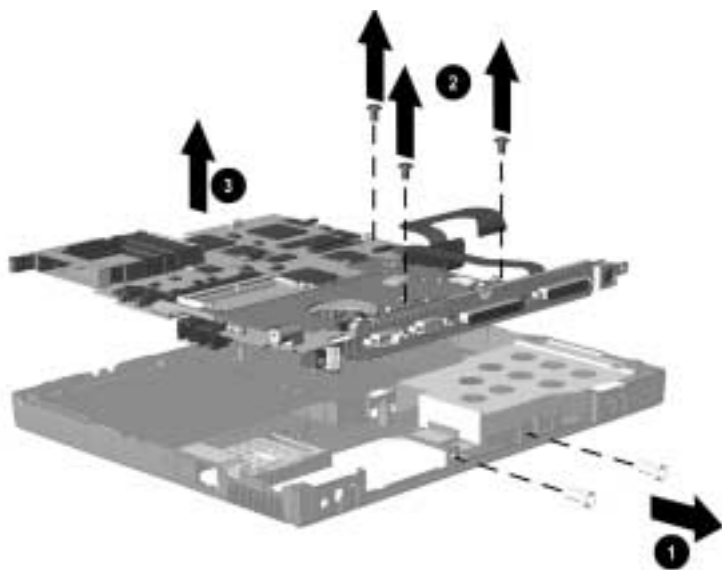

Figure 5-25. *Removing the System Board*
5. Remove the two bushing guides **❶** that secure the system board to the I/O bracket (Figure 5-25).
6. Remove the three screws **❷** that secure the system board to the base enclosure.
7. Lift the system board straight out of the base enclosure **❸**.